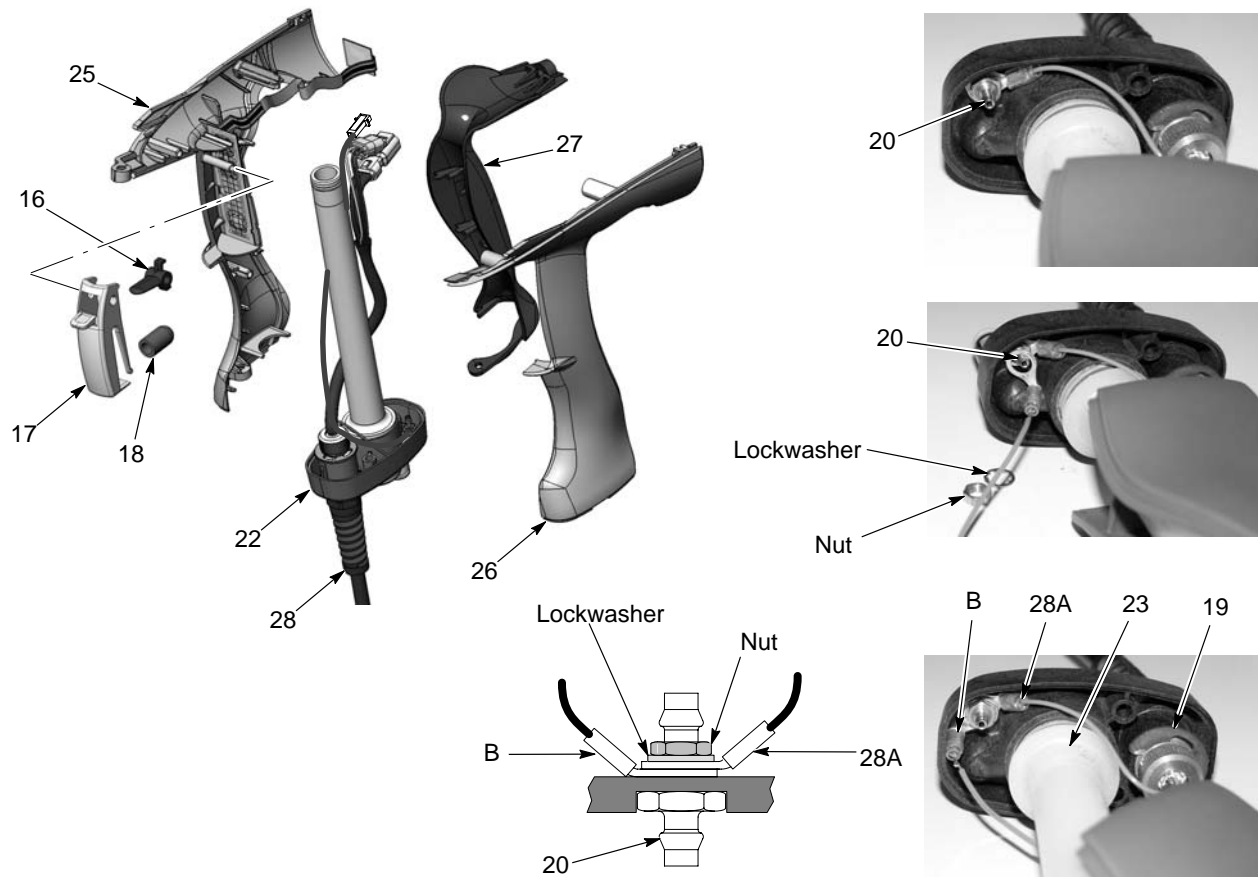

Figure 7 Separating the Handles and Connecting the New Module Ground Wire
12. See Figure 7. Separate the right and left handles (25, 26).
14. Use a deep $\frac{1}{4}$ -in. socket to remove the nut and lockwasher from the barbed fitting (20) and disconnect the gun cable ground wire and display module ring-tong terminals from the fitting.
19. See Figure 7. Hook the ground pad (27) behind the locator tabs on the rear of the handles and rotate the ground pad into position against the handle assembly, making sure the wiring and tubing is not crimped.